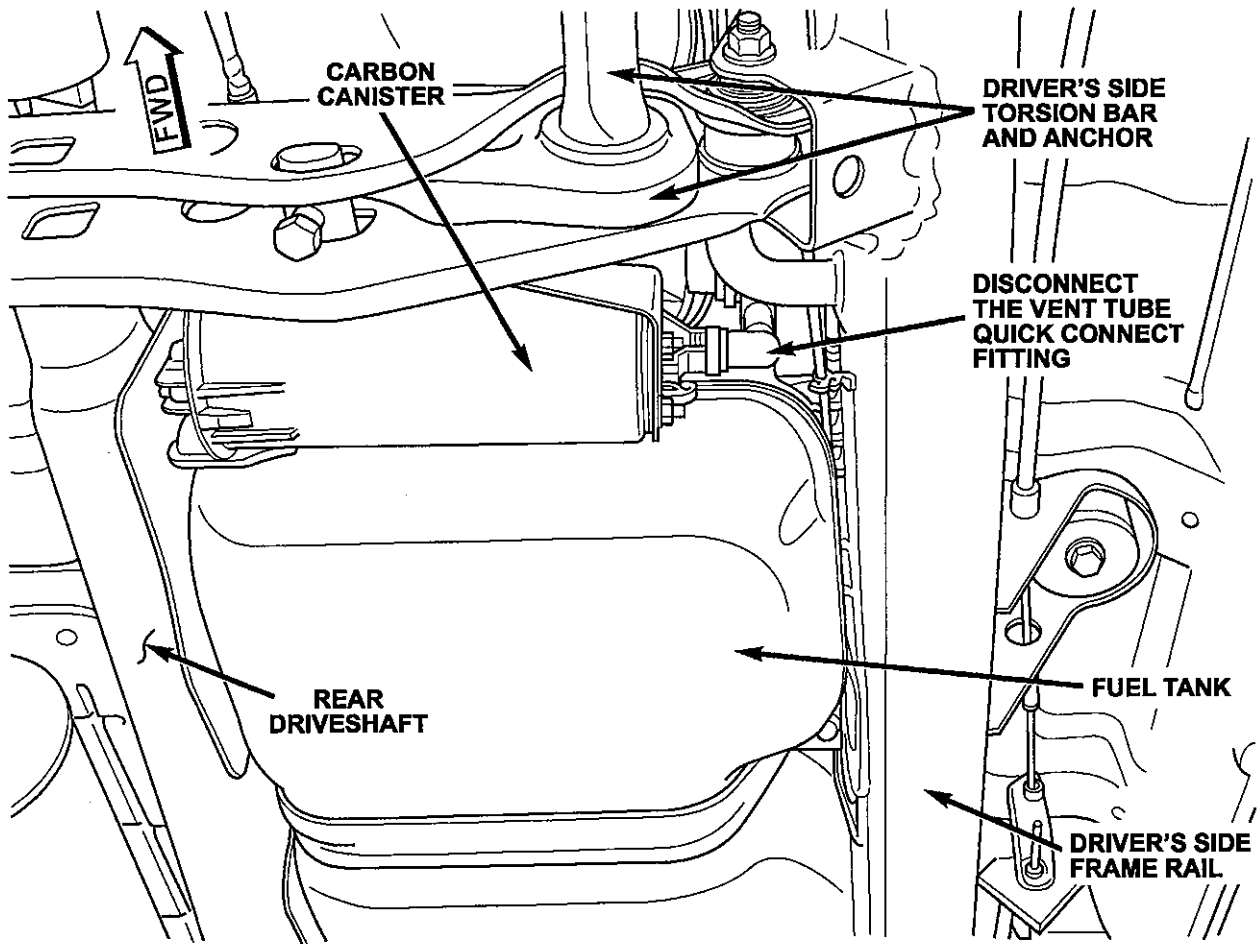

Figure 3 – Carbon Canister Vent Tube
5. Disconnect the carbon canister vent tube quick connect fitting from the canister (Figure 3).